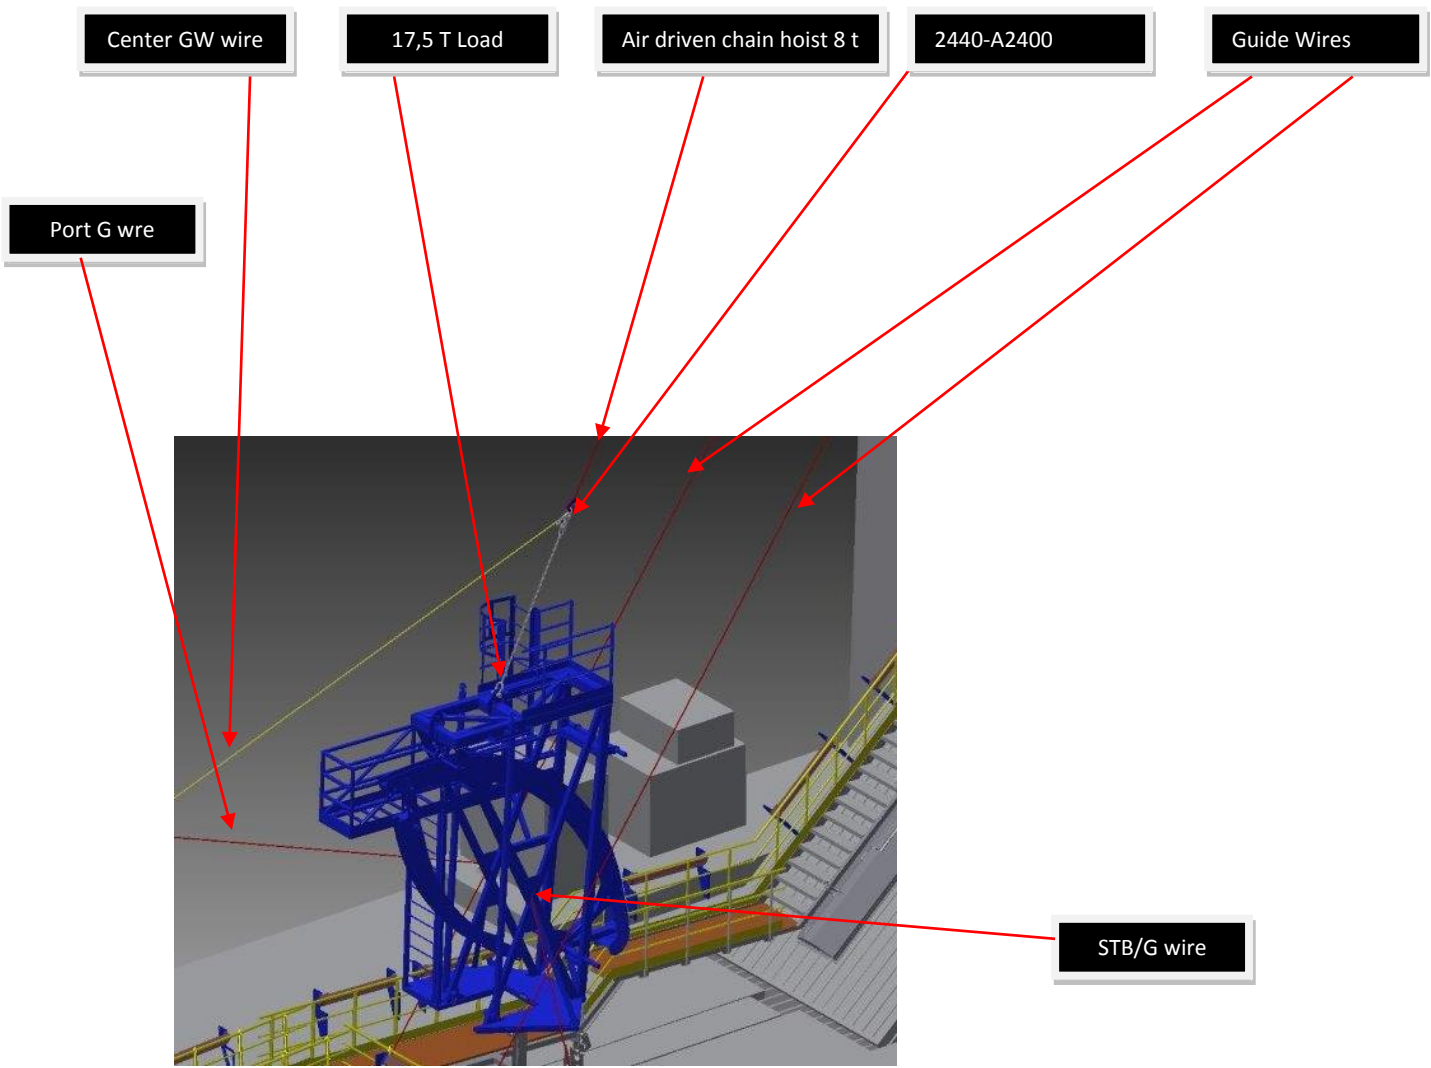

Figure 4.2.1 Lower position
- Rig up as shown in 3841-A0001 (lower position, Figure 4.2.1)